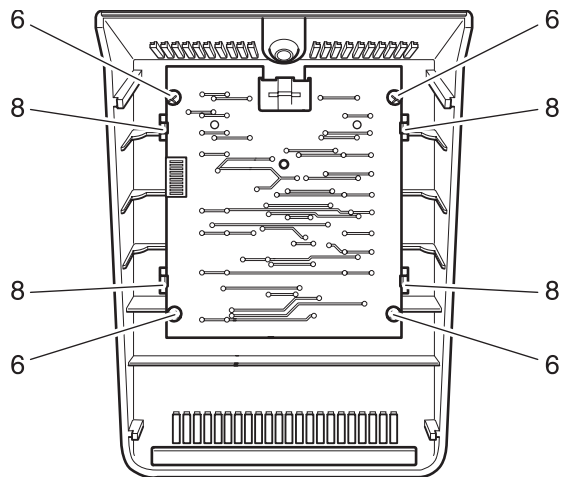

Fig. 16b
- Slightly lift brackets 8 and remove panel (fig. 16b).